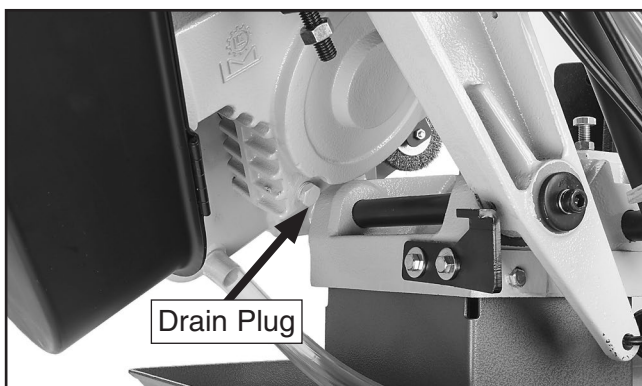

Figure 52. Location of drain plug.
5. Place drain pan under drain plug, then remove drain plug (see **Figure 52**) to drain oil.